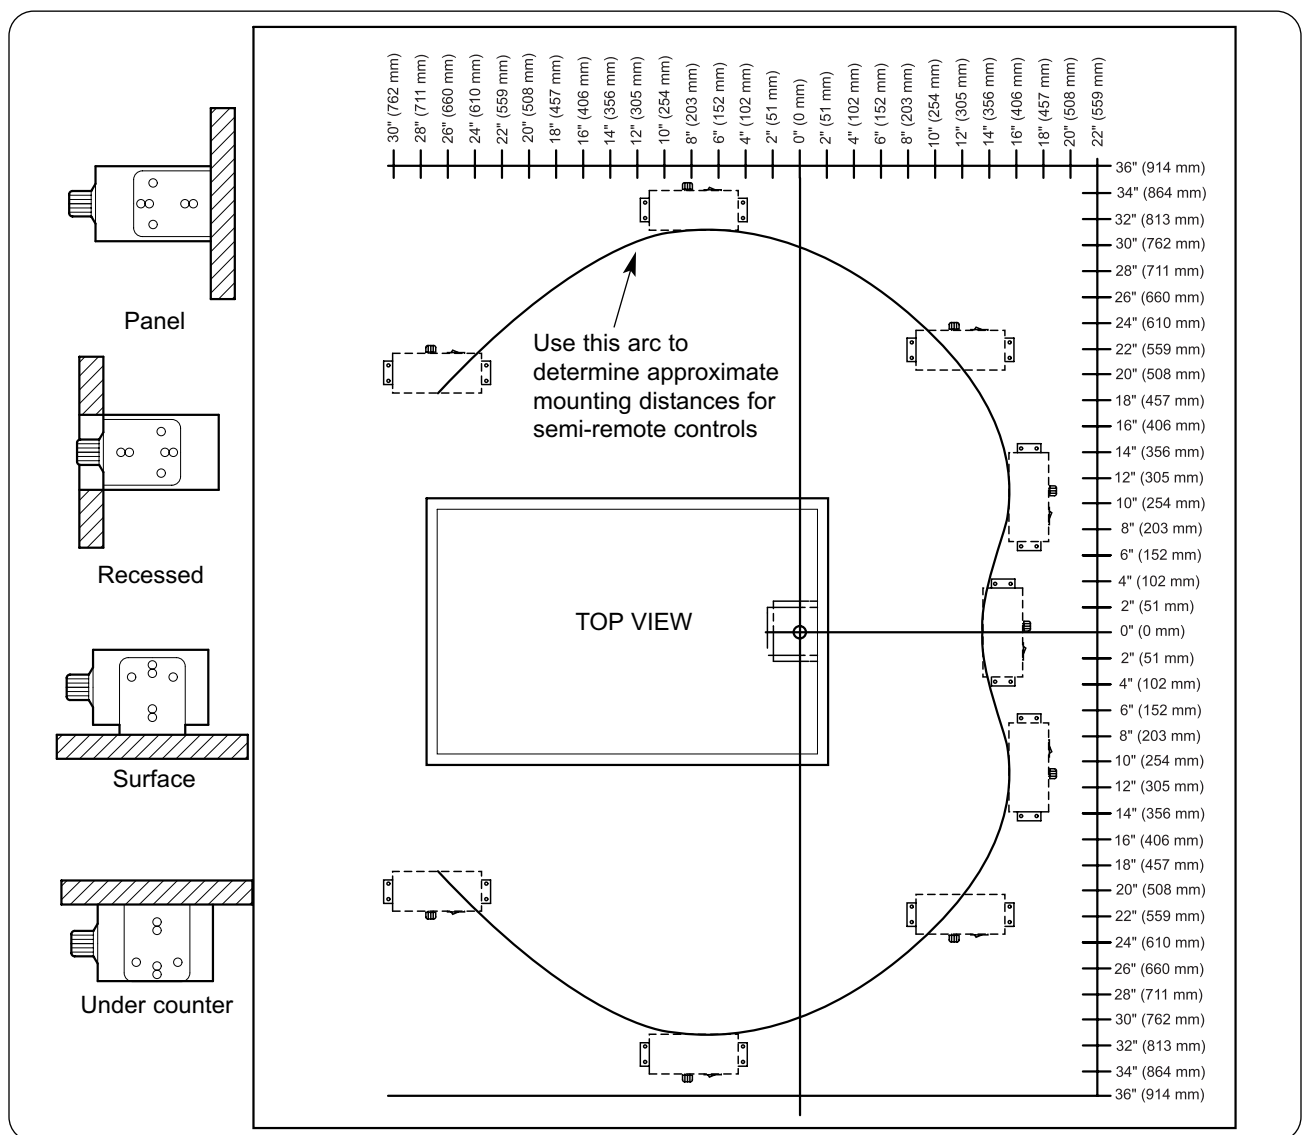

Figure 7. Maximum Remote Mounting Distance for GRSSB Series Control Box
9. Locate the remote control box assembly in an area that is convenient for operation. If necessary, remove the end brackets from the control box, rotate and reposition them. The control box will require a hole mounting pattern of 7-5/8" x 1-1/4" (194 mm x 32 mm). See Figure 7 for mounting distances.